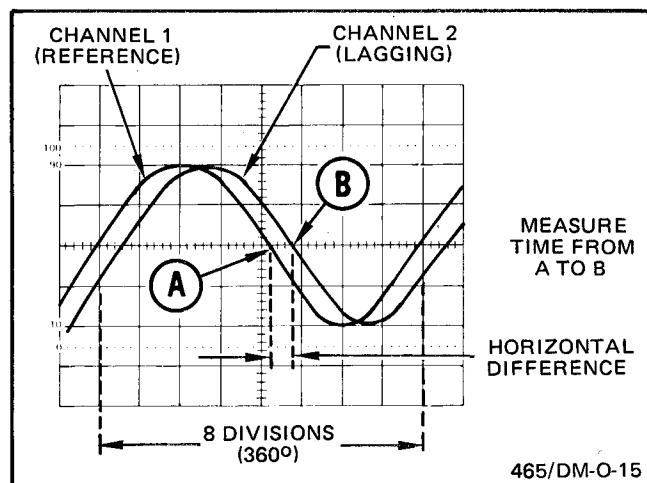

Fig. 2-14. Phase difference.
6. Turn the variable (X1 - X10) SEC/DIV control until one cycle of the reference signal (Channel 1) occupies exactly eight divisions between the first and ninth graticule lines (see Fig. 2-14). Each division of the graticule represents 45° of the cycle ($360^\circ \div 8$ divisions = 45° / division).
Assume a horizontal difference of 0.6 divisions with a sweep rate of 45° division as shown in Fig. 2-14.